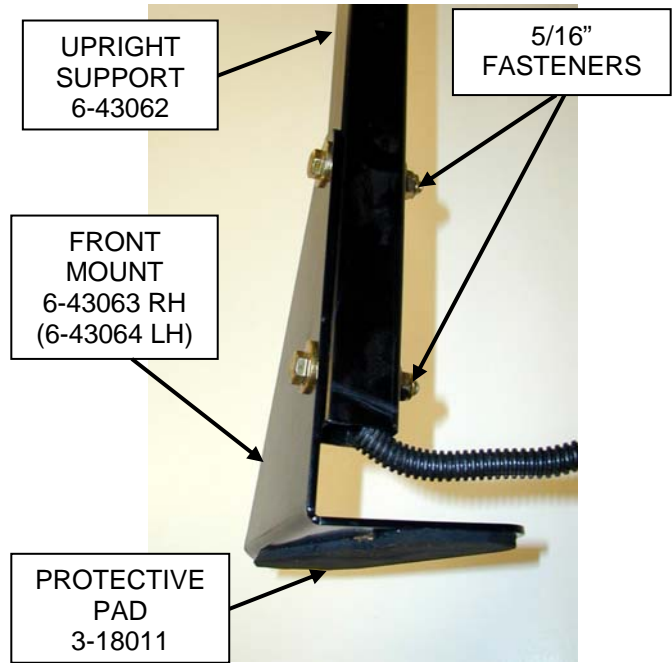

Figure 3
6. Assemble front lower mount brackets 6-43063 and 6-43064 to front upright supports 6-43062. See figure 3.
7. Apply (2) protective adhesive pads 3-18011 to the bottom of each front lower mount brackets 6-43063 and 6-43064. See figure 3.